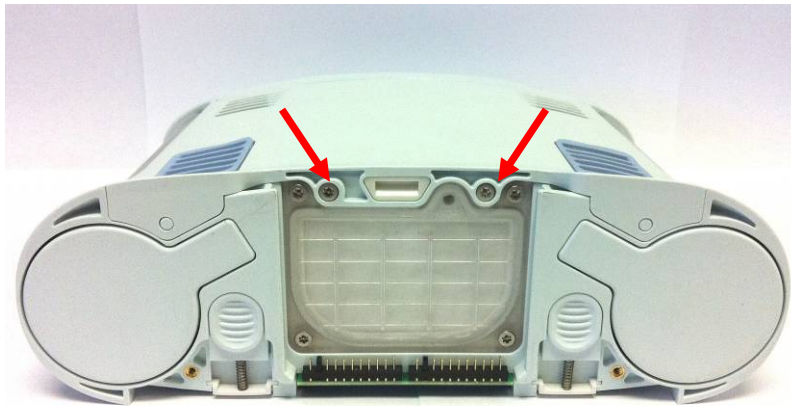

Figure 2: Location of screws
2. To remove the front housing, place the device on its back side and remove the two screws that secure the front housing to the chassis (Figure 2).